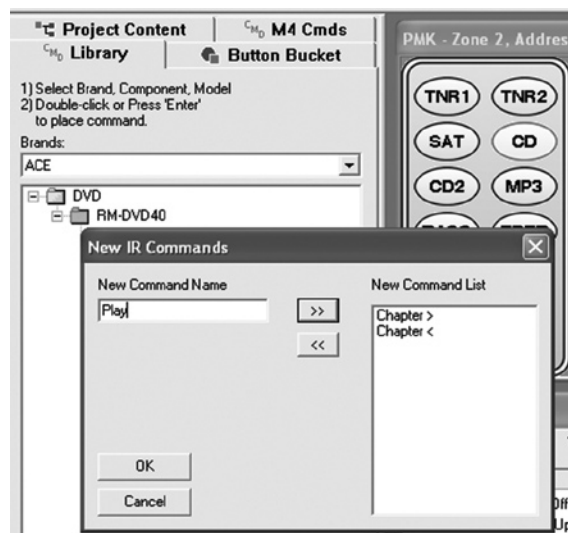

Figure 19 Adding New Command Names
4. Right-click the new model # folder (i.e., RM-MP340). Go to "New Commands" and left-click "IR Commands." Type in command name (i.e., PLAY) and left-click right arrows (>>) to put the name in the New Command List. At this point, you can type in a whole list of command names (i.e., STOP, PAUSE, TITLE, MENU, etc.). Refer to Figure 19.